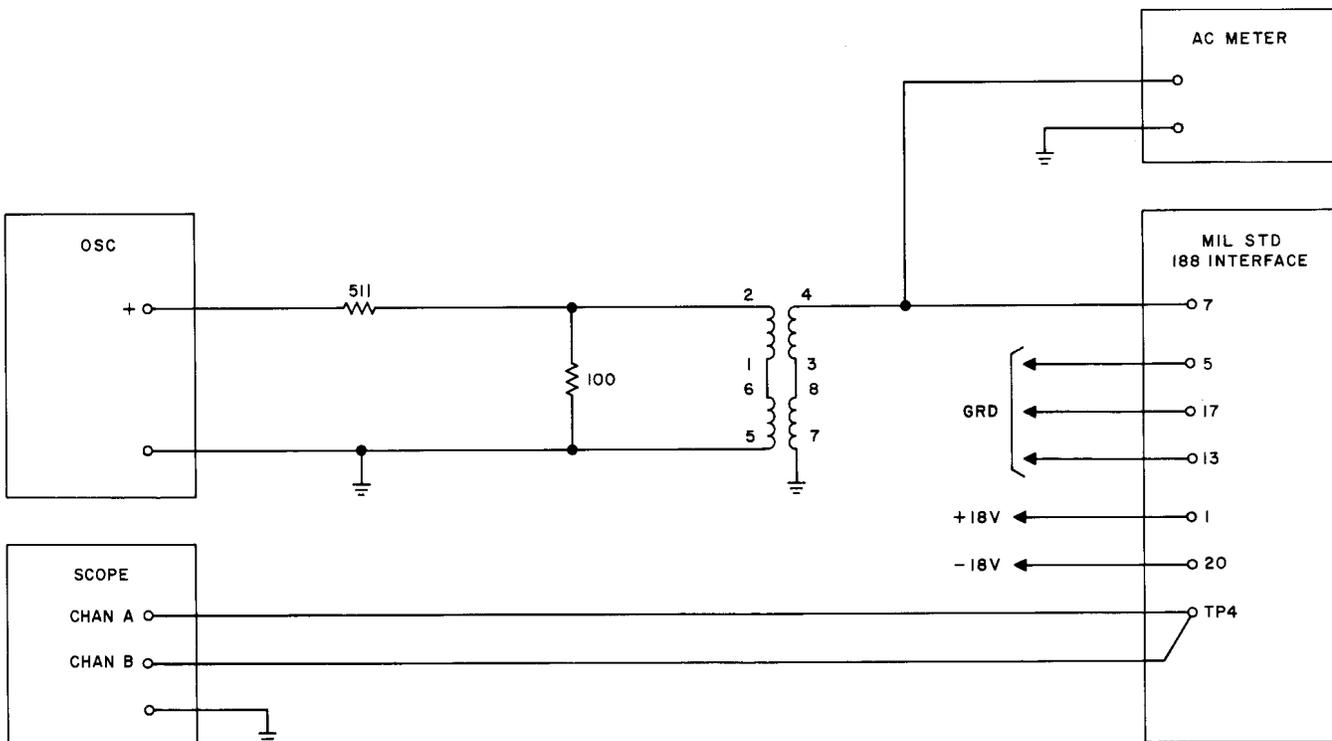

Fig. 67A—MIL. STD 188B Interface Test Circuit
(1) With the circuit pack connected to the suggested test circuit shown in Fig. 67A, connect +18.0 (± 0.5) Vdc to terminal 1, -18.0 (± 0.5) Vdc to terminal 20, and ground to terminals 5, 13, and 17.